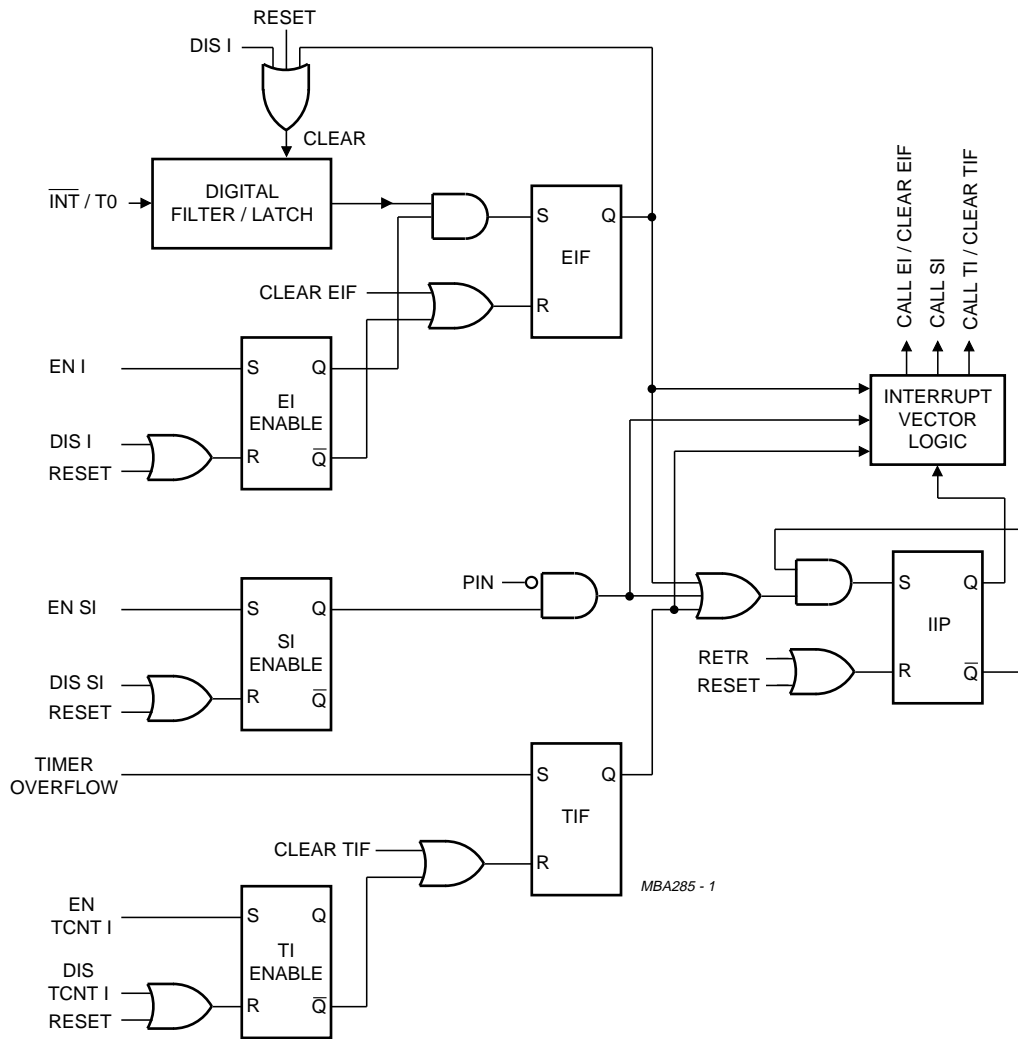

Fig.7 Simplified interrupt logic schematic (the R input overrules the S input for all flags).
An interrupt request is only sensed if the corresponding enable flag is set (see Fig.7). When the request is honoured, the contents of the Program Counter and bits 4, 6 and 7 of the Program Status Word are saved on the Program Counter stack. The Program Counter is loaded with the appropriate interrupt vector, thereby indicating the beginning of the interrupt routine. Since the Accumulator is not automatically saved, it must be saved and restored by user software. The interrupt routine must be terminated by the RETR (return and restore) instruction. At least one instruction of the main program will then be executed before another interrupt routine is entered. To avoid erroneous real-time programs, a few words of caution:
- Subroutines and nested subroutines called from the interrupt routine must all end with RET since RETR clears the Interrupt In Progress flag (IIP), as a side-effect (see Figs 7 and 8). Further pending interrupts would then interfere with the interrupt routine in progress.
A HIGH-to-LOW transition on the $\overline{\text{INT}}/\text{T0}$ pin is latched in the digital filter/latch if the LOW state exceeds 7 clock periods after a HIGH state of more than 4 clock periods. If the external interrupt is enabled the External Interrupt Flag (EIF) is also asserted, thus constituting a valid external interrupt request. As soon as the IIP is clear, indicating that no interrupt routine is in progress, the external interrupt is invoked by a forced CALL to location 3. The EIF is simultaneously cleared (see Figs 7 and 8). The interrupt routine may acknowledge the
If the timer/event counter interrupt is enabled, a timer/event counter 1 overflow sets the Timer Interrupt Flag (TIF). As soon as IIP is clear, meaning that no interrupt routine is in progress, the timer/event counter interrupt routine is invoked by a forced CALL to program memory location 7. The TIF is simultaneously cleared (see Figs 7 and 8). Execution of a DIS TCNTI (disable timer/event counter interrupt) instruction cancels a stored interrupt request by clearing TIF.